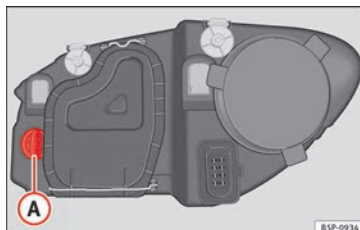

Fig. 177 Turn signal bulb.
- Rotate the bulb holder » Fig. 177 **A** to the left and pull.